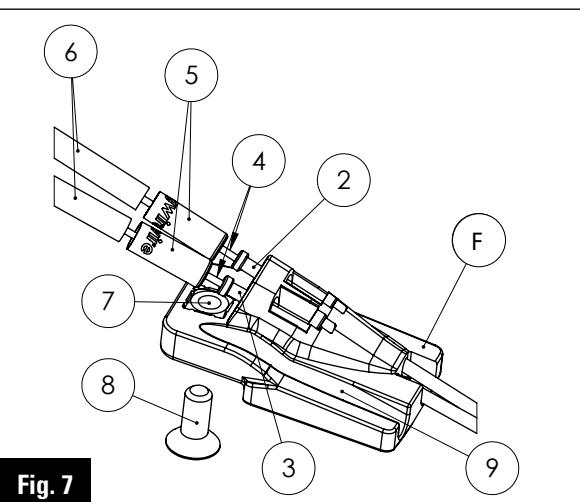

Fig. 7
- 1 / Place liners ② and ③ abutting in their grooves (Fig. 7).
- 2 / Insert the casings with their ends (Fig. 7).
- 3 / Screw stop (F) with screw ⑧, making sure that the casings stay firmly inside cap (F).